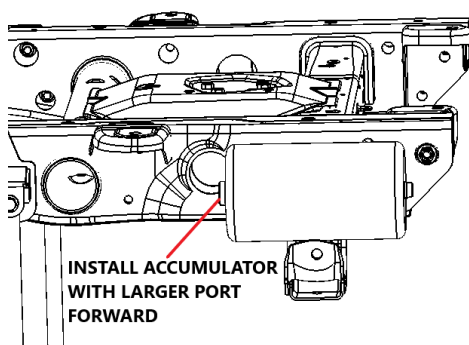

Figure 26
- 15:** Locate the accumulator tanks P/N 10006420 (DS) and P/N 10006421 (PS). These tanks fasten into the factory rear leaf spring shackle mounts with the factory bolts. Make sure that the large port for the $\frac{3}{4}$ " air fitting is pointing forward. Torque the factory leaf spring bolt to 135 ft./lbs. once the tank is secured within the mount, run the $\frac{3}{4}$ " air line from the large fitting in the air tank to the fitting in the air bag. Torque the nut on the bottom of the bag to 35 ft./lbs. See figure 26.